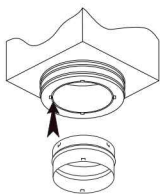

Figure 3
• Clip designed adapter (Figure 3)